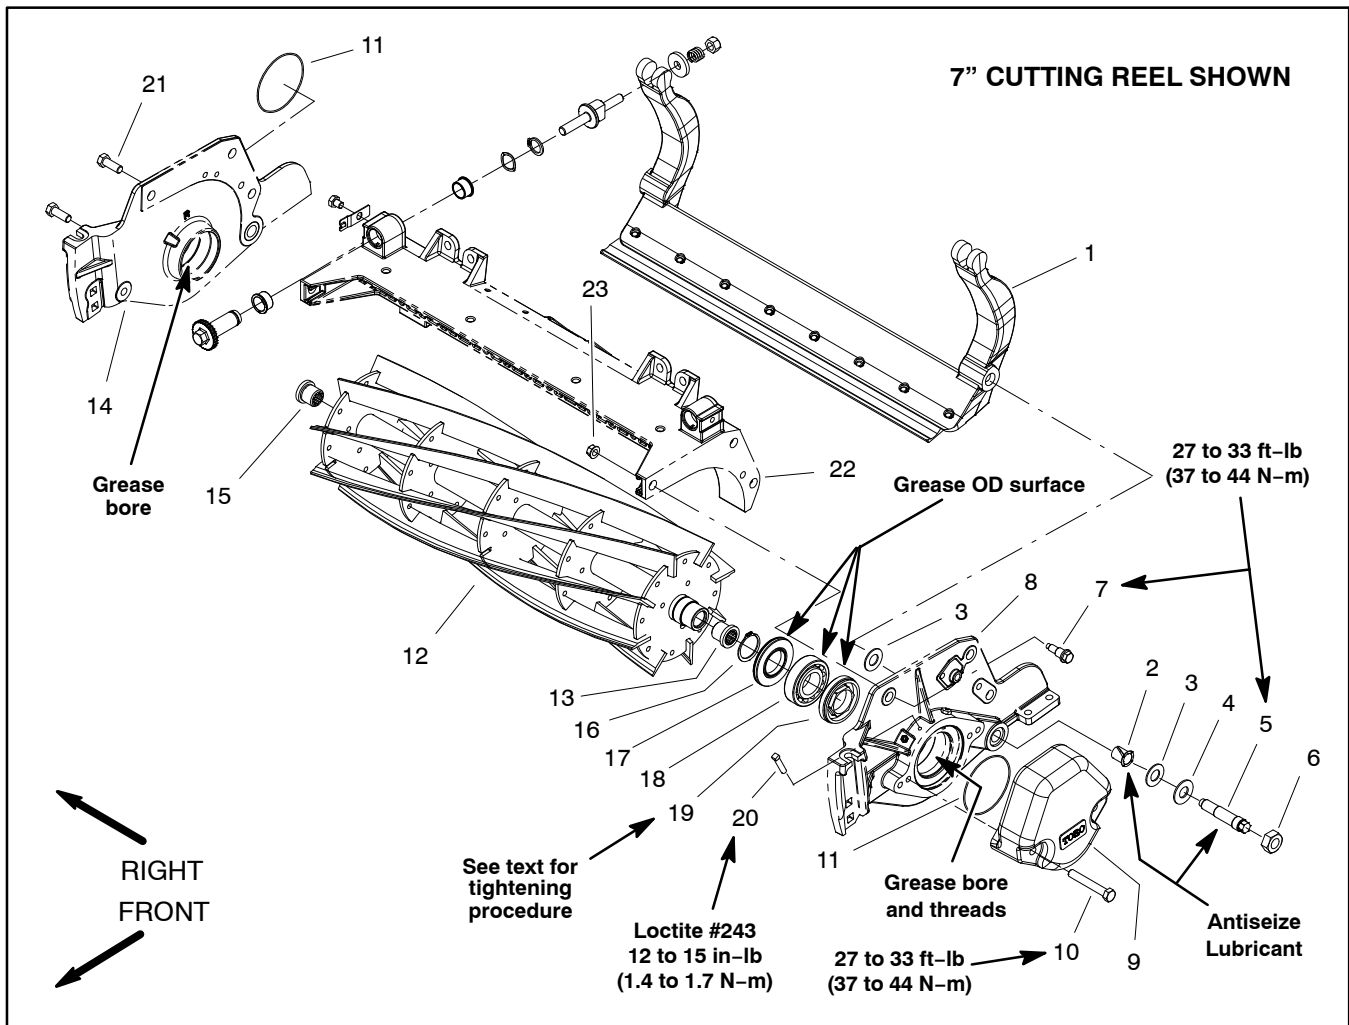

Figure 33
### Reel Assembly Removal (Fig. 33)
3. If the cutting unit is equipped with a counterweight or accessory on LH side plate (as shown in Figure 33), remove the counter weight or accessory. Remove and discard the O-ring from counter weight.
### Reel Assembly Installation (Fig. 33)